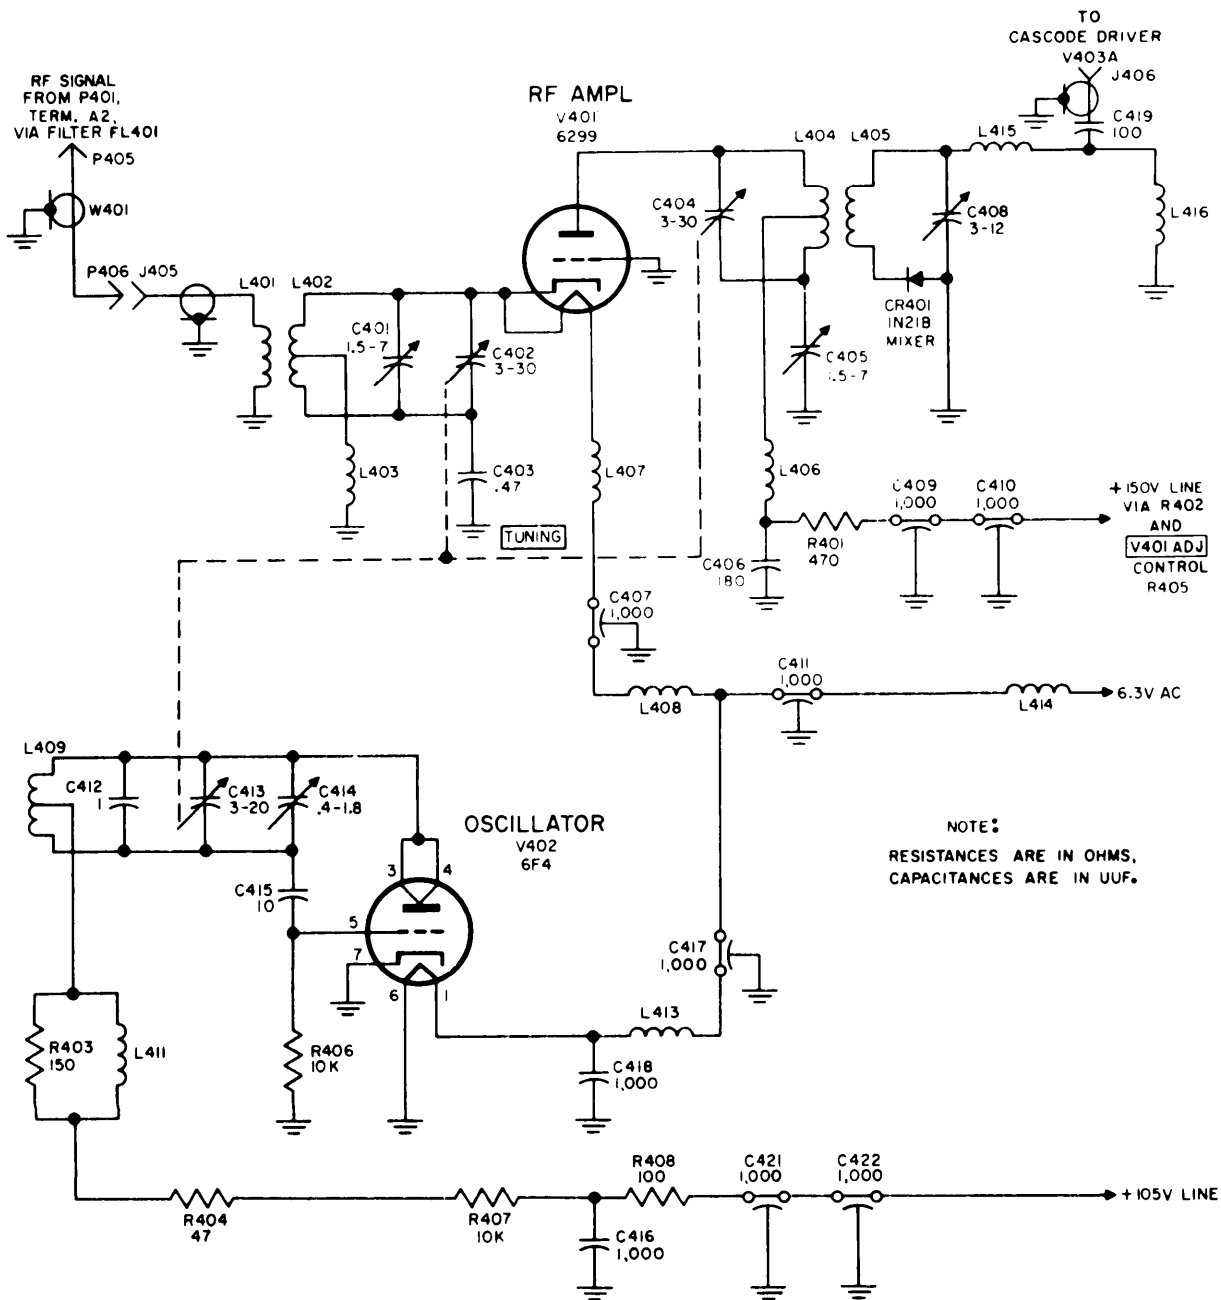

Figure 28. Tuning unit 3 rf amplifier and oscillator, schematic diagram.
43. RF Amplifier V401, Detailed Analysis (fig. 28, 68, and 69)
b. Amplifier Circuit (fig. 28 and 69). The tuned cathode input circuit consists of pickup loop L402, trimmer capacitor C401, and variable capacitor C402 which is worm-gear driven by the front panel TUNING control. Variable capacitor C402 is mechanically coupled to plate-tuning capacitor C404 and to oscillator-tuning capacitor C413. Therefore, the amplifier and the oscillator track over the complete frequency range. The low rf potential side of the cathode input tuned circuit is bypassed by C403. The amplified rf voltage in the plate is developed across the parallel-tuned circuit, which consists of tuning capacitor C404 and pickup loop L404. Trimmer capacitor C405 is adjusted during alignment to obtain a peak output signal
44. Oscillator V402, Detailed Analysis (fig. 28 and 69)
(fig. 28)